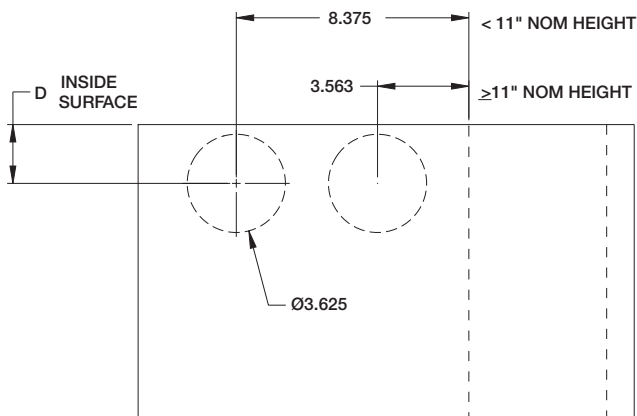

Figure 1: OCI hole location. See table on page 3 for D dimension. (All dimensions shown in inches).
1. Using a hole saw to drill a 3 $\frac{5}{8}$ in. (92 mm) diameter hole in the sleeve (**Figure 1**). See charts on page 3 for location of hole.